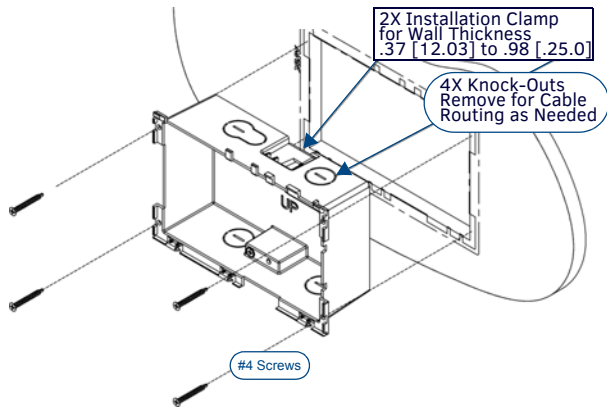

FIG. 4 MXD-700 BACKBOX INSTALLATION (LANDSCAPE)
- Thread the incoming Ethernet cable through the surface opening (FIG. 4). Leave enough slack in the wiring to accommodate any re-positioning of the panel.
- For additional strength, #4 mounting screws (not included) may be secured via mounting holes located at the left and right sides of the MXD-700 (FIG. 4). In order to prevent damage to the touch panel, make sure that these are flush with the Backbox.